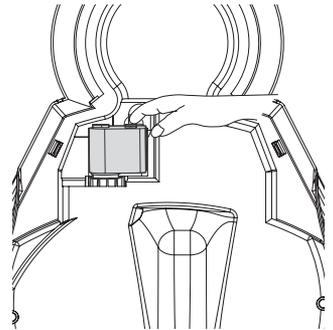
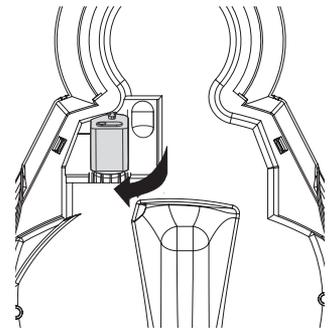

Fig. 8A
Fig. 8B
2. Turn the bowl over and remove the motor from its cavity by slipping your finger into the indentation behind the motor (Fig. 8A) and pulling that end of the motor out toward you so that it has turned a quarter of a turn (Fig. 8B).
1. Turn the bowl over. Reattach the motor by pushing the threads of the motor through its hole in the bowl. The motor goes in at a right angle to the bowl (as it was when you pulled it out to remove it, Fig. 8B). In order for the motor to screw or turn into place, the threads must be pushed past the threads of the bowl. If you cannot turn the motor into its resting position, it is not pushed into the hole as far as it will go.